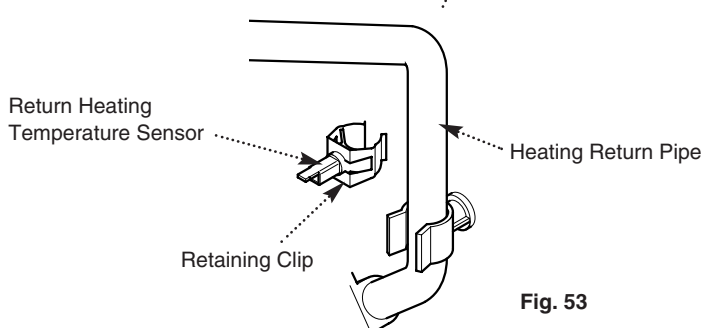

Fig. 53
12.11 Return Heating Temperature Sensor (Fig. 53)